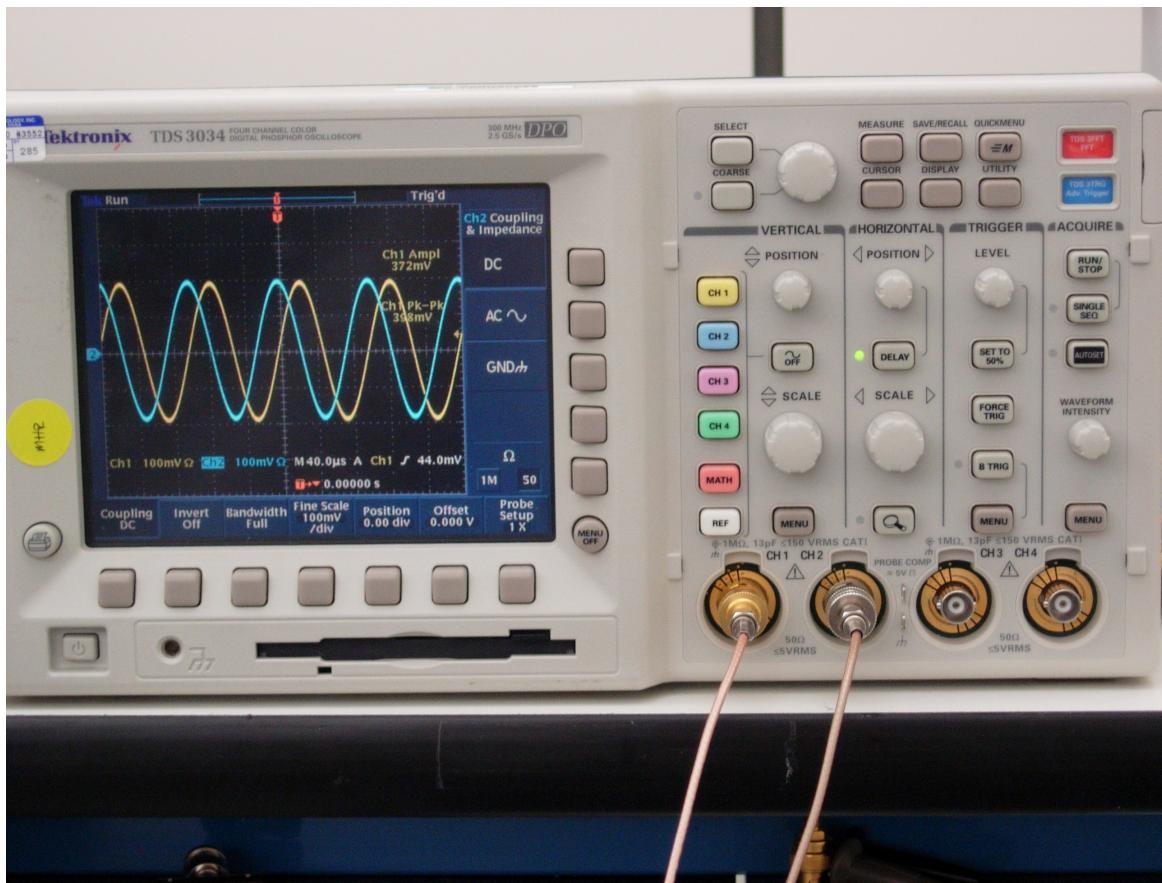

Figure 6. CW Outputs
- The CW outputs (J12, J13) display the frequency I and Q signals at 10 kHz as shown in Figure 6. The GUI **Gain Control Feedback Resistor** can be used to vary the amplitude of the outputs.